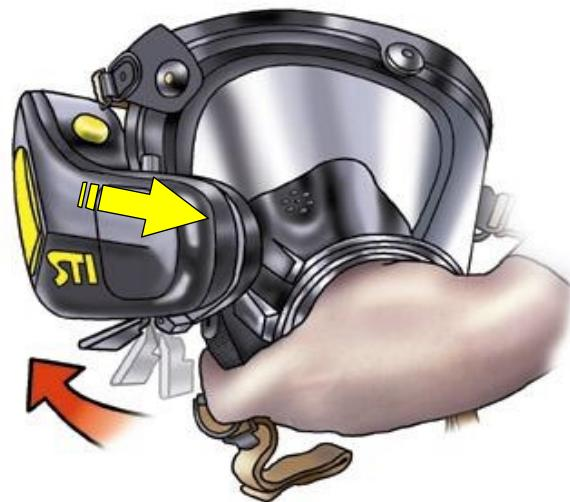

FIGURE 8
6. While still maintaining downward pressure on the front end of the unit (Figure 8), close the locking lever using your right middle and ring fingers. When properly locked down, the clamp will butt up against the clear Lexan.